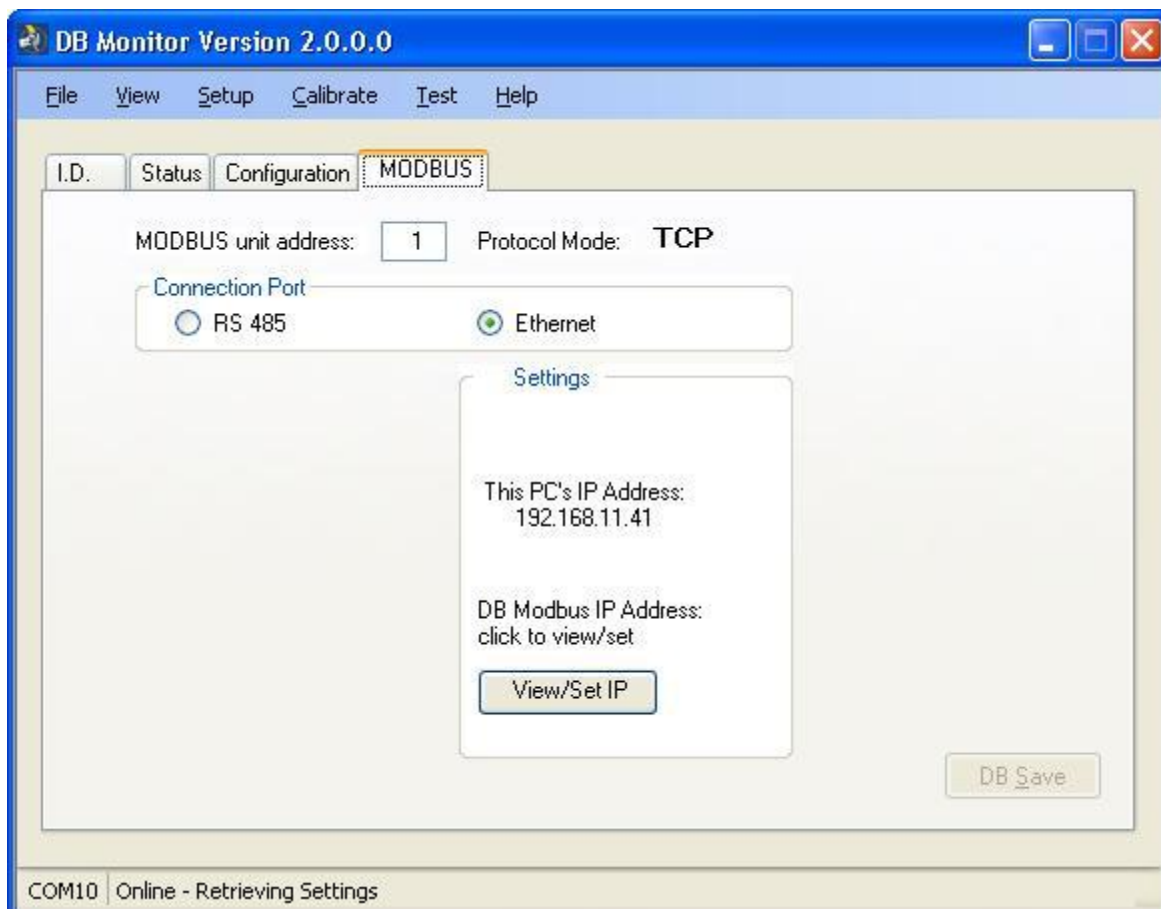

Figure A-19. Select Ethernet connection on MODBUS screen
2. Launch the DB Monitor software and click the **MODBUS** tab and select the **Ethernet** radio button. See Figure A-19 below.